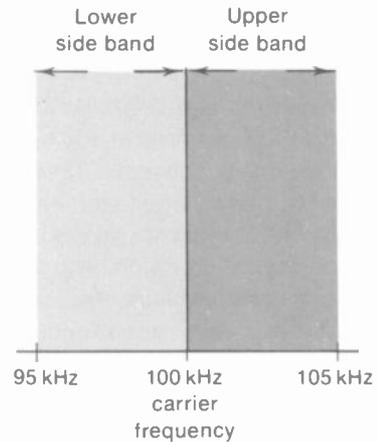

FIGURE 6-4 DOUBLE SIDE BANDS RESULTING FROM AMPLITUDE MODULATION OF 100-KHZ CARRIER WITH ALL MODULATING FREQUENCIES UP TO 5 KHZ.
**Side bands.** When the carrier is modulated by a voltage that includes many frequency components, each audio modulating frequency produces a pair of rf side frequencies. In each pair, one side frequency is higher than the carrier frequency and one is lower. All the higher side frequencies can be considered as the *upper side band* of the carrier with all the lower side frequencies the *lower side band*. This idea is illustrated in Fig. 6-4 for the case of modulation with a continuous band of audio frequencies from 0 to 5,000 Hz. The graph here indicates the corresponding side frequencies for a 100-kHz carrier. The upper side band includes all side frequencies from the carrier frequency of 100 up to 105 kHz; the lower side band includes the side frequencies down to 95 kHz. The bandwidth required for the two side bands in this case is  $\pm 5$  kHz centered around the carrier frequency of 100 kHz, or a total bandwidth of 10 kHz. Note that the required bandwidth for the AM carrier with two side bands is double the highest modulating frequency.